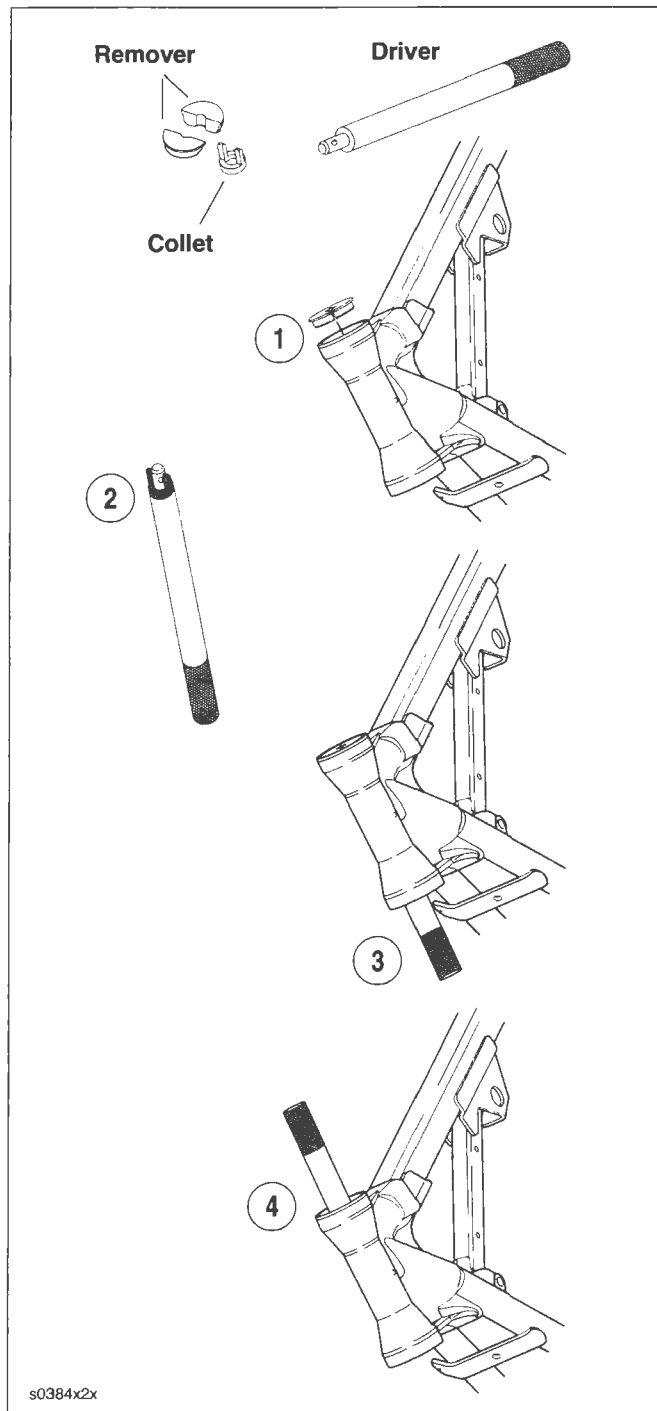

Figure 2-108. Remove Upper and Lower Steering Head Bearing Races
1. See Figure 2-108. With the tapered side down, seat the two-piece remover tool on the upper bearing race leaving a gap in the middle.